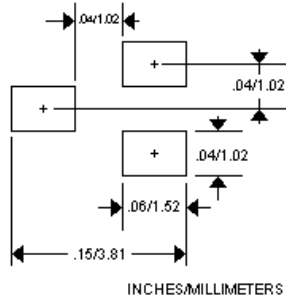

**FIGURE 1**
- SM03 thru SM36 have a Peak Pulse Power: 500 Watts (8/20 μsec, Figure 1)